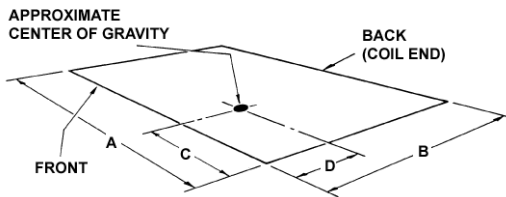

FIGURE 1 - CENTER OF GRAVITY
A unit can also be supported by concrete piers. These piers should (1) extend below the frost line, (2) be located under the unit's four corners, and (3) be sized to carry the entire unit weight. Refer to Figure 1 and Table 1 for the center of gravity and unit weight.